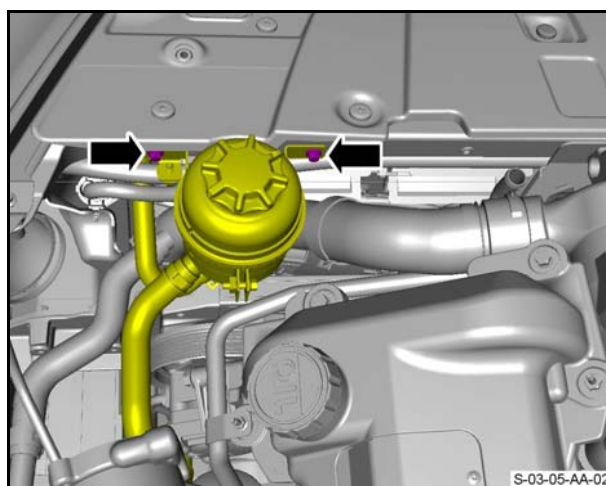

Figure 1
4. Remove the two (V12 vehicles) or three (V8 vehicles) M6 screws that attach the PAS reservoir (refer to Figure 1 - V12 shown).